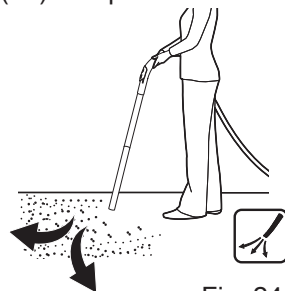

Fig. 24
- > Attach the extension tube(s) (10) onto the hose handle (9a) if required.
- > Hold the hose approximately 10 cm above the ground and walk slowly forward using a sweeping motion from side to side (Fig. 24).